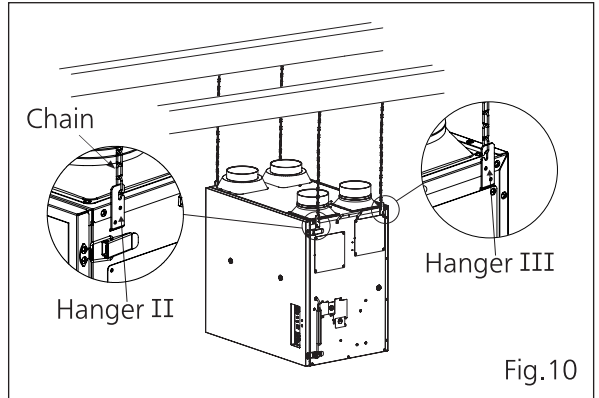

Fig.10
3. Hang the ERV on to chains. (Fig.10)